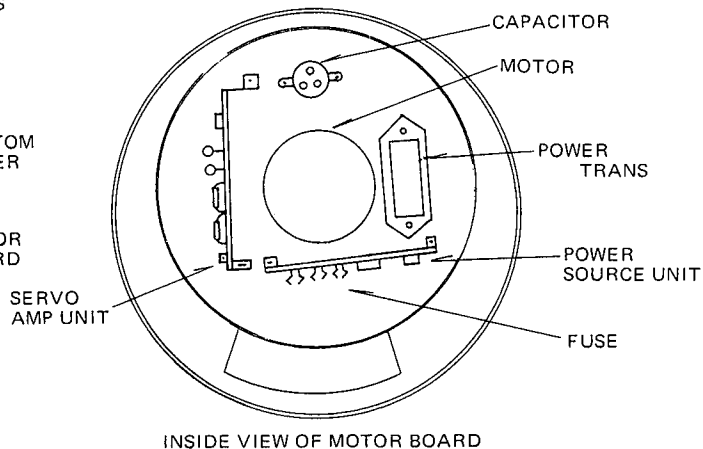

Fig. 6
2. Take out carefully the fuse from the fuse clip of the power source unit. (Fig. 6)